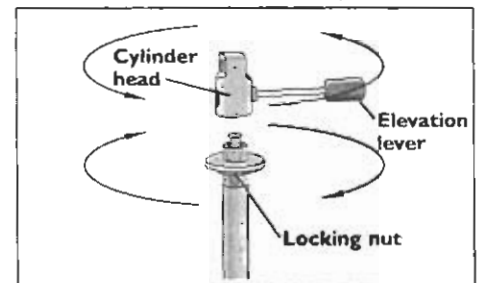

Figure 18
3. Loosen the locking nut directly below the head of the pneumatic cylinder (Figure 18). You use leverage by placing a screwdriver through the top hole in the head of the pneumatic cylinder.